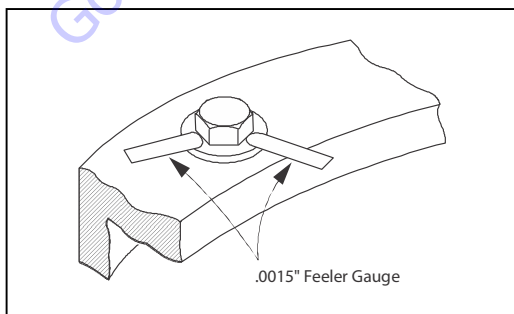

Figure 3-10. Swing Bearing Bolt Feeler Gauge Check
- b. At the positions indicated on figure 3-10 try and insert the 0.0015 inch (0.0381 mm) feeler gauge between the bolt head and hardened washer at the arrow indicated position.
- b. Try and insert the 0.0015" feeler gauge between bolt head and hardened washer at position shown in Figure 3-10.
- d. Try and insert the 0.0015" feeler gauge between bolt head and hardened washer at position shown in Figure 3-10.